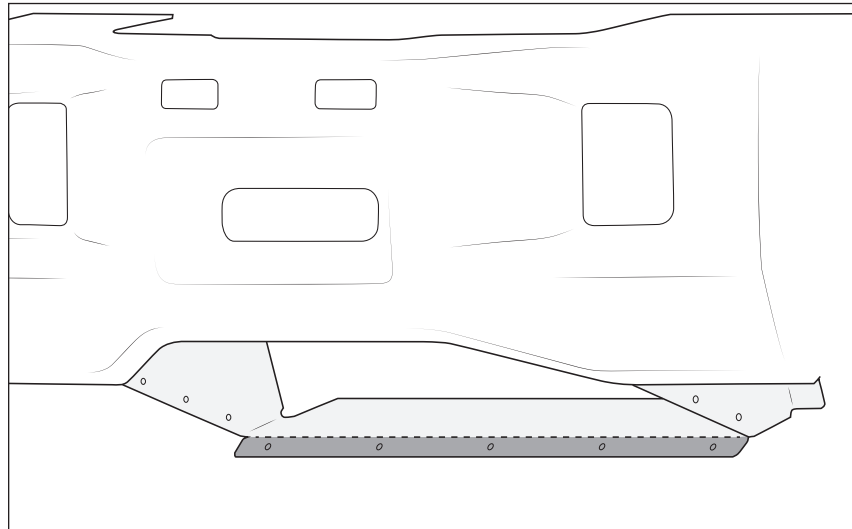

Figure 3: Trim Shaded Portion of Shroud
3. If your vehicle is equipped with an early intercooler shroud with a lower flange (fig. 3) you will need to trim the lower flange off along the bend and treat with rust preventative. Optionally: you can purchase a newer style shroud AEV Part Number: 10308010AB.